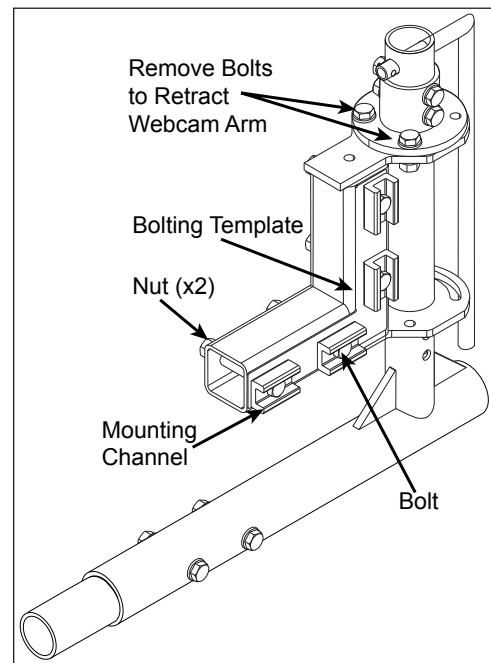

Figure 26: Pivoting Webcam Arm Base
1. To retract the webcam arm, remove the three short bolts from the top of the elbow assembly. Refer to **Figure 26**.